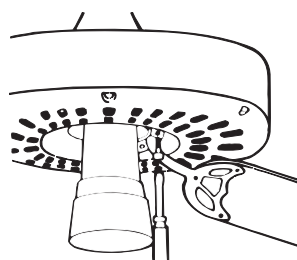

Figure 18
6. Fasten the screw onto the motor, but do not overtighten. See Figure 18.